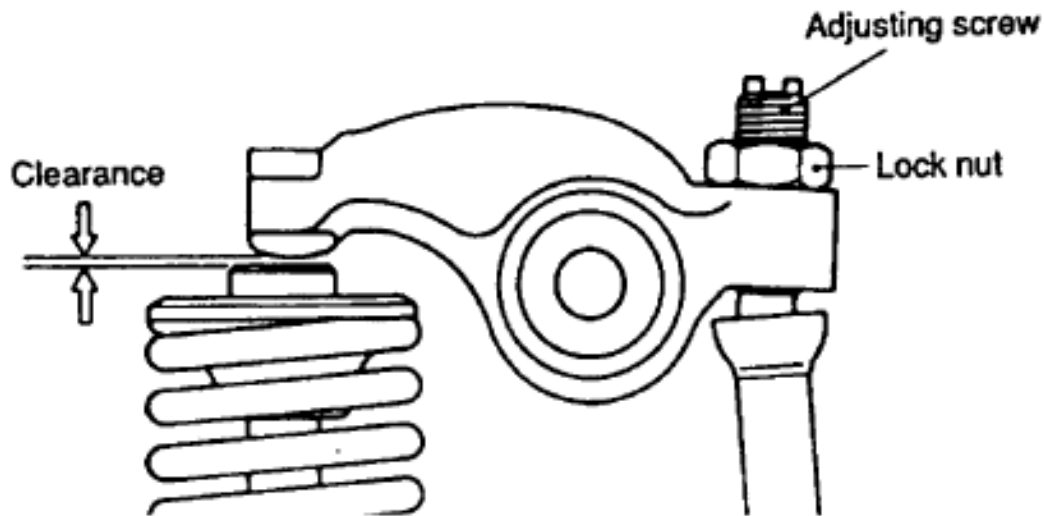

Figure 551-88L-2048_07
- (1) Rotate engine until cylinder is at top dead center.
- (2) Remove the valve rocker arm cover.
- (3) Measure the clearance between the valve stem and the rocker arm end with a thickness gage, (refer to Figure 551-88L-2048_07).